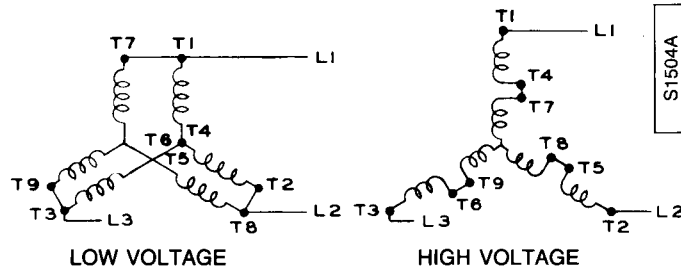
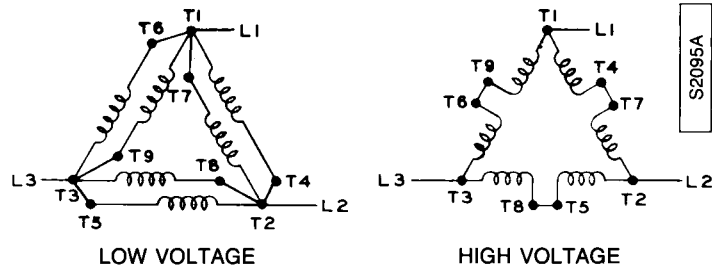

FIGURE 88
FIGURE 89
3. Reconnect the trolley drive motor leads inside the motor junction box. Refer to Table 13 and Figures 88 and 89.
Y-CONNECTED (Figure 88) DELTA-CONNECTED (Figure 89)